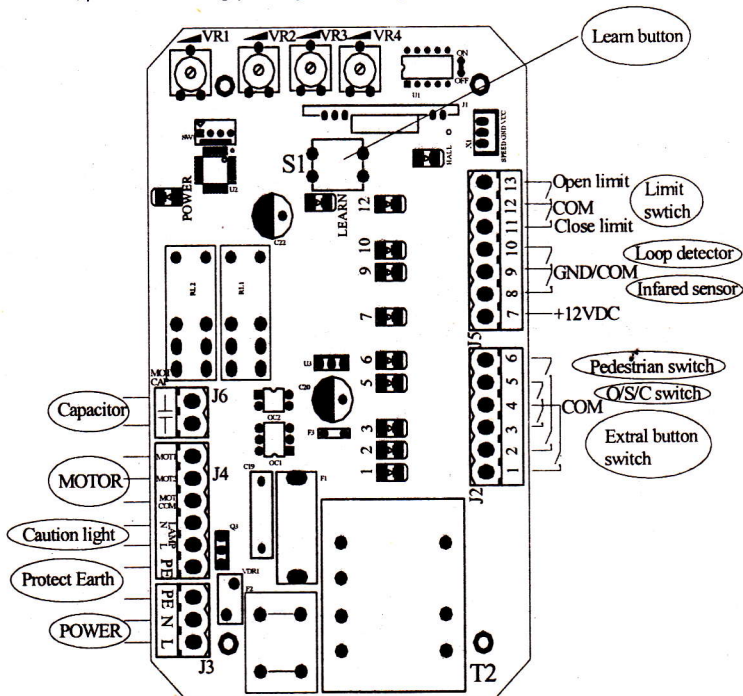

Fig.8
Remove the cover, perform the wiring (See Fig.8 and wiring notes for control board) and replace the cover again.
a. Adjust the Adjustable resistance (see Fig.8)
- **Adding extra remote controls (Learn):** Remove the cover, press and hold the learn button 'S1' (Fig.8) more than 2 seconds, then the 'LED of LEARN' (Fig.8) will be on, then press the remote control button which you want to use, the 'LED' will turn on about 2 seconds and then turn off again. The learning process is finished. Up to 25 remote controls may be used.